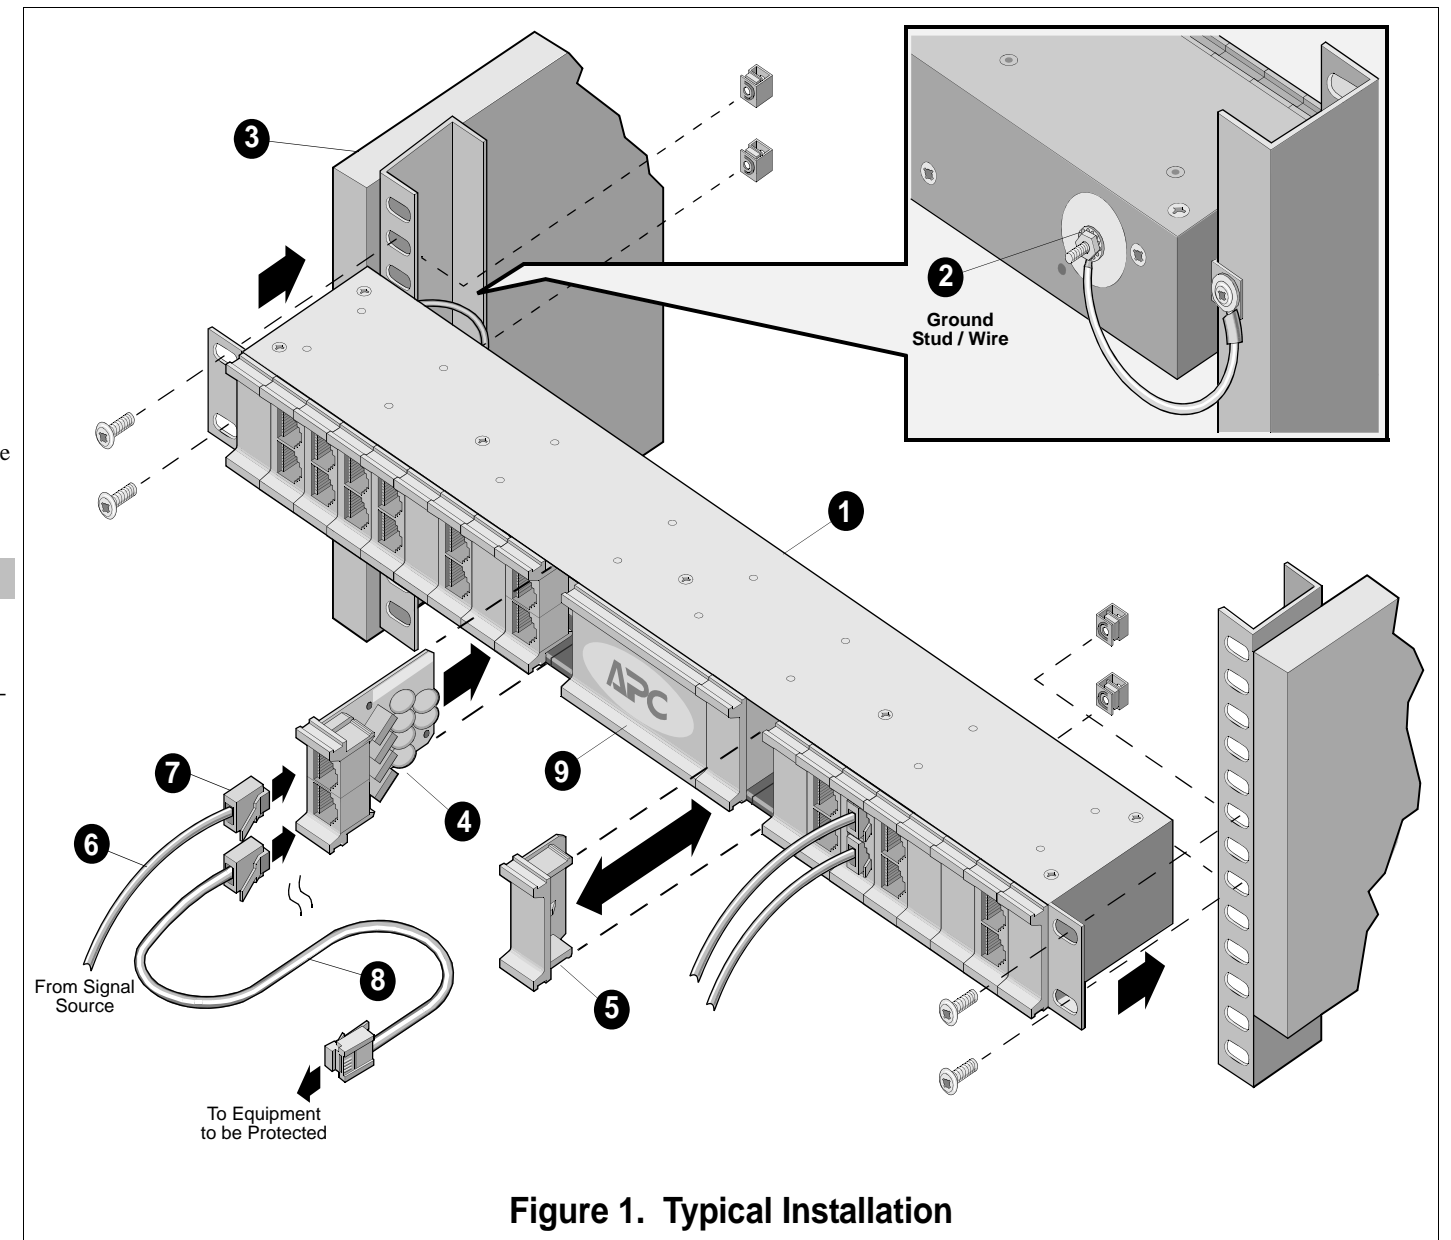

Figure 1. Typical Installation
APC recommends that the ProtectNet Data Line Surge Protection chassis (1, Figure 1) PRM24, be installed using the mounting hardware provided with the chassis. Additionally, the chassis must be connected to a proper protective earth ground. A ground stud (2) is provided on the back of the chassis. Ensure the mounting rack or enclosure (3) is connected to a proper ground. Install the chassis and modules (4) as shown in Figure 1.